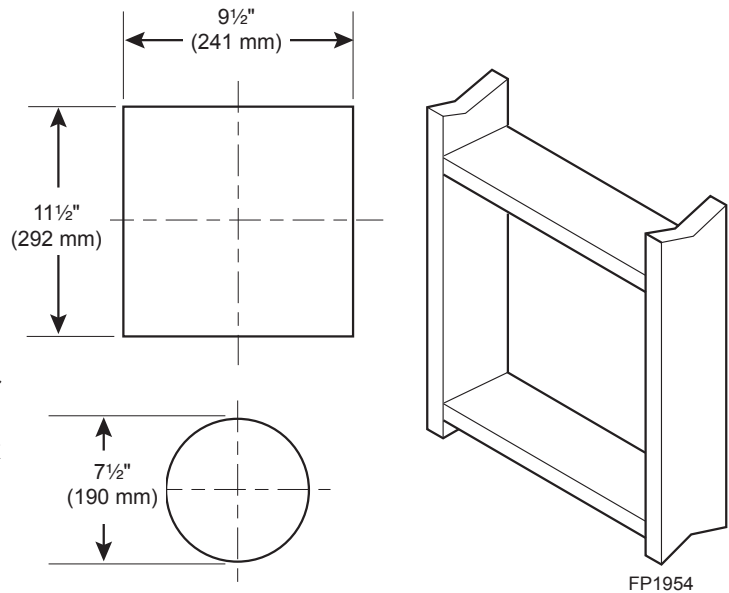

Figure 16 - Vent Opening Requirements
Combustible Walls: Cut a 11½"H x 9½" W (292 x 241 mm) hole through the exterior wall and frame as shown. *Figure 16*
3. Attach vent pipe assembly to the fireplace. Set fireplace in front of its permanent location to insure minimum clearances. Mark the wall for a 11½"H x 9½"W (292 x 241 mm) rectangle hole (for noncombustible material such as masonry block or concrete, a 7½" [190 mm] diameter hole is acceptable). *Figure 16*. The center of the hole should line up with the center line of the horizontal rigid vent pipe end. Be sure to allow for minimum rise. Cut a 11½"x9½" rectangle hole through combustible exterior wall (7½" diameter hole if noncombustible). Frame as necessary. Allow ¼" minimum rise per foot. *Figure 16*
1. Establish vent hole through the wall. *Refer to Page 20, Figure 16*
3. Cut a hole in the roof using the locating hole as a center point. (Cover any exposed open vent pipes before cutting hole in roof). The 9½" x 9½" (241 x 241 mm) hole must be measured on the horizontal. Actual length may be larger depending on the pitch of the roof. There must be a 1" minimum clearance from the vent pipe to combustible materials. (Insulation should be considered a combustible material) Frame the opening as shown on Page 20, Figure 16.